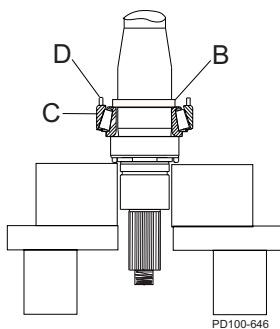

Figure 278 - Install Inner & Outer Spacer and Lower Cup
4. Place the inner spacer (Figure 278, item B) over the shaft onto the lower cone and roller assembly.